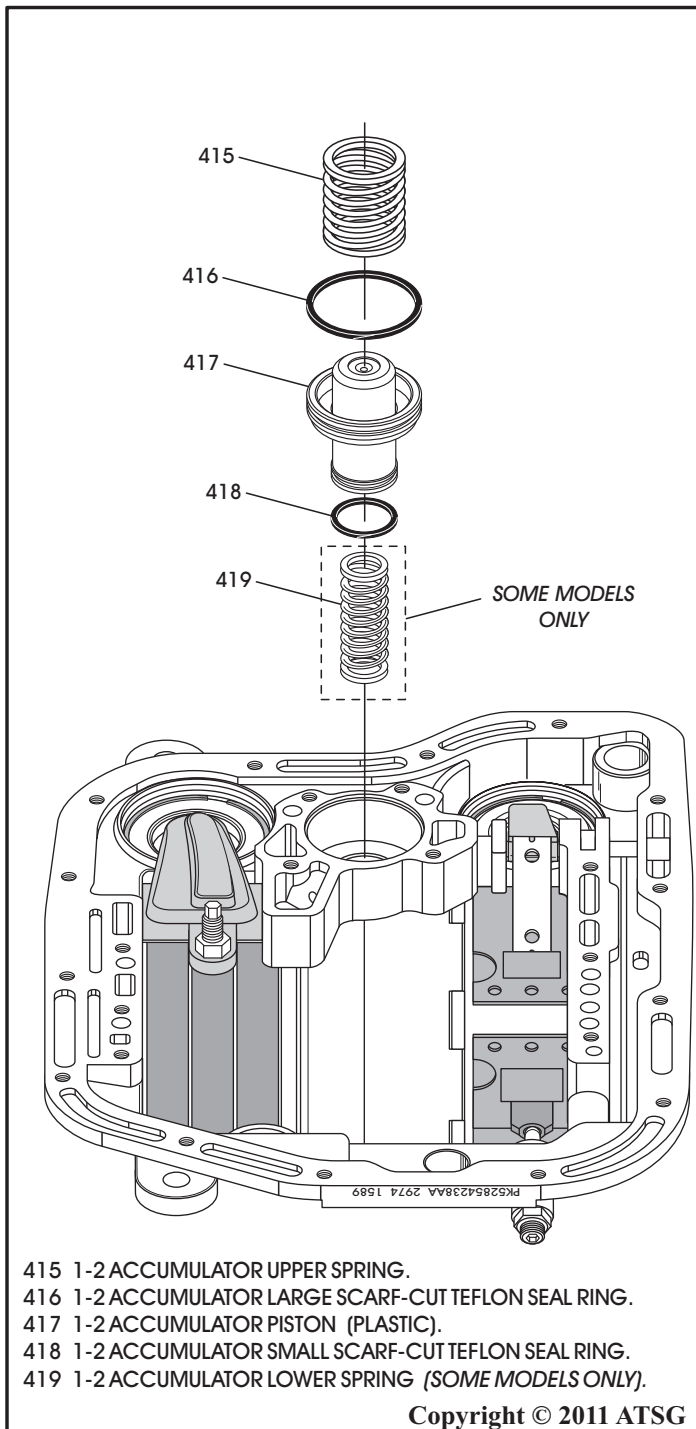

Figure 72
28. Remove the 1-2 accumulator assembly from the case, as shown in Figure 72.
Note: *Spring below the accumulator piston is not used on all models (See Figure 72).*
29. Remove and discard the two scarf-cut Teflon seal rings, as shown in Figure 72.